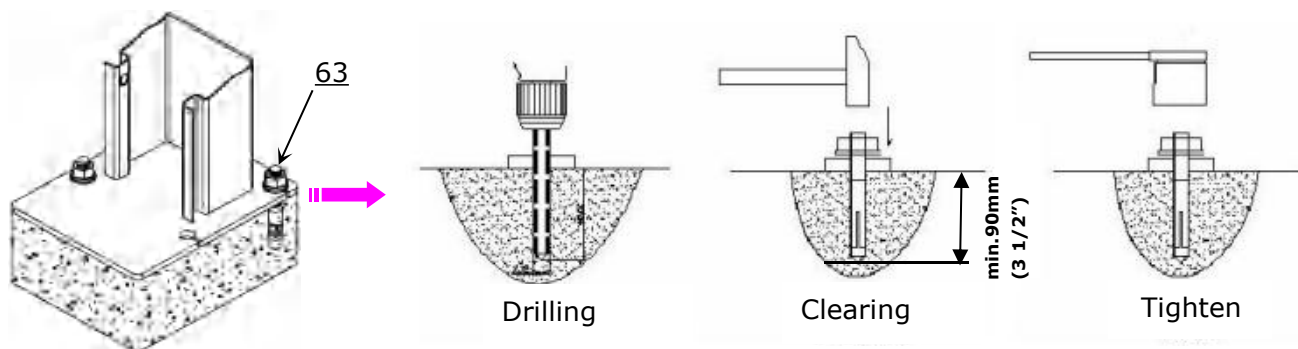

Fig. 34
3. Use the prescribed rotary hammer drill, drill all the anchor holes and install the anchor bolts and tighten all nuts. (See Fig. 34)